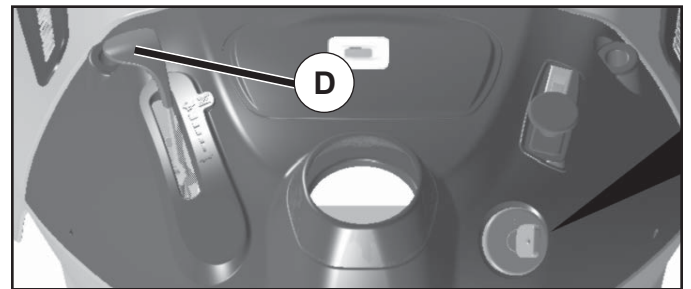

FIG. 9
- Move throttle control (D) between half and full speed (fast) position.
- Turn ignition key (F) to "STOP" position and remove key. Always remove key when leaving tractor to prevent unauthorized use.
### TO USE THROTTLE CONTROL (D) (See Fig. 9)